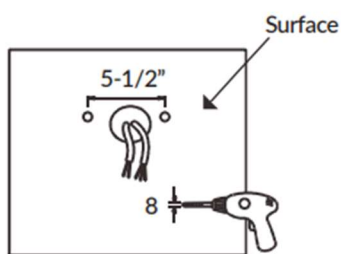

Figure 1
1. Drill holes into the surface. (Figure 1)